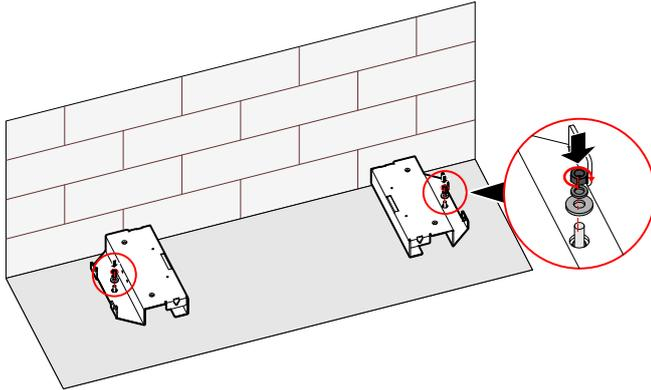

Figure3-8 Fasten the base module
3. Fix the base module to the installed floor, as shown in Figure3-8.